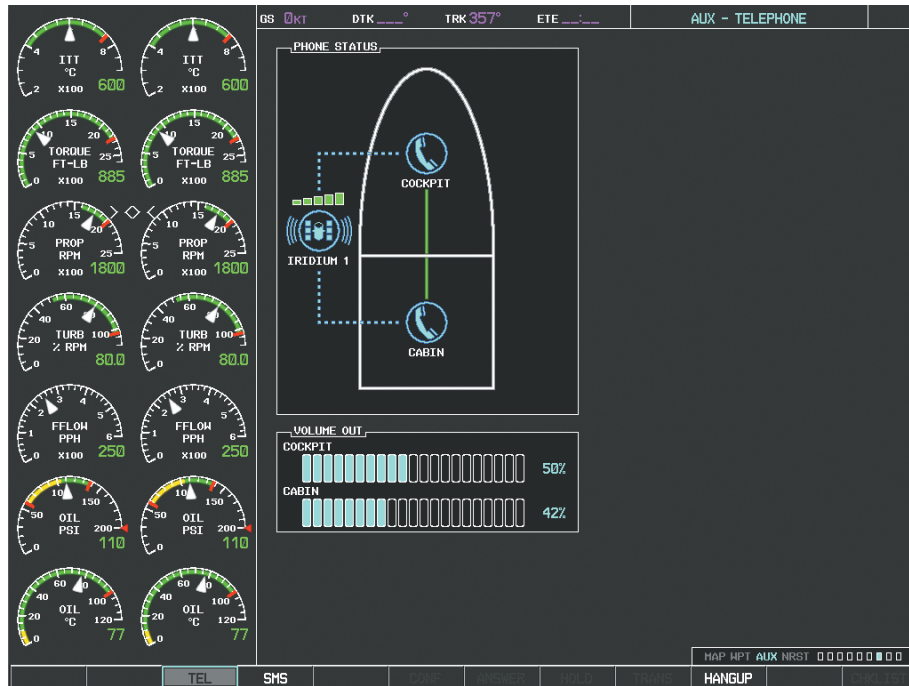

Figure 8-94 Conference in External Phone
5) Press the **ENT** Key again to place the call as shown in Figure 8-94.